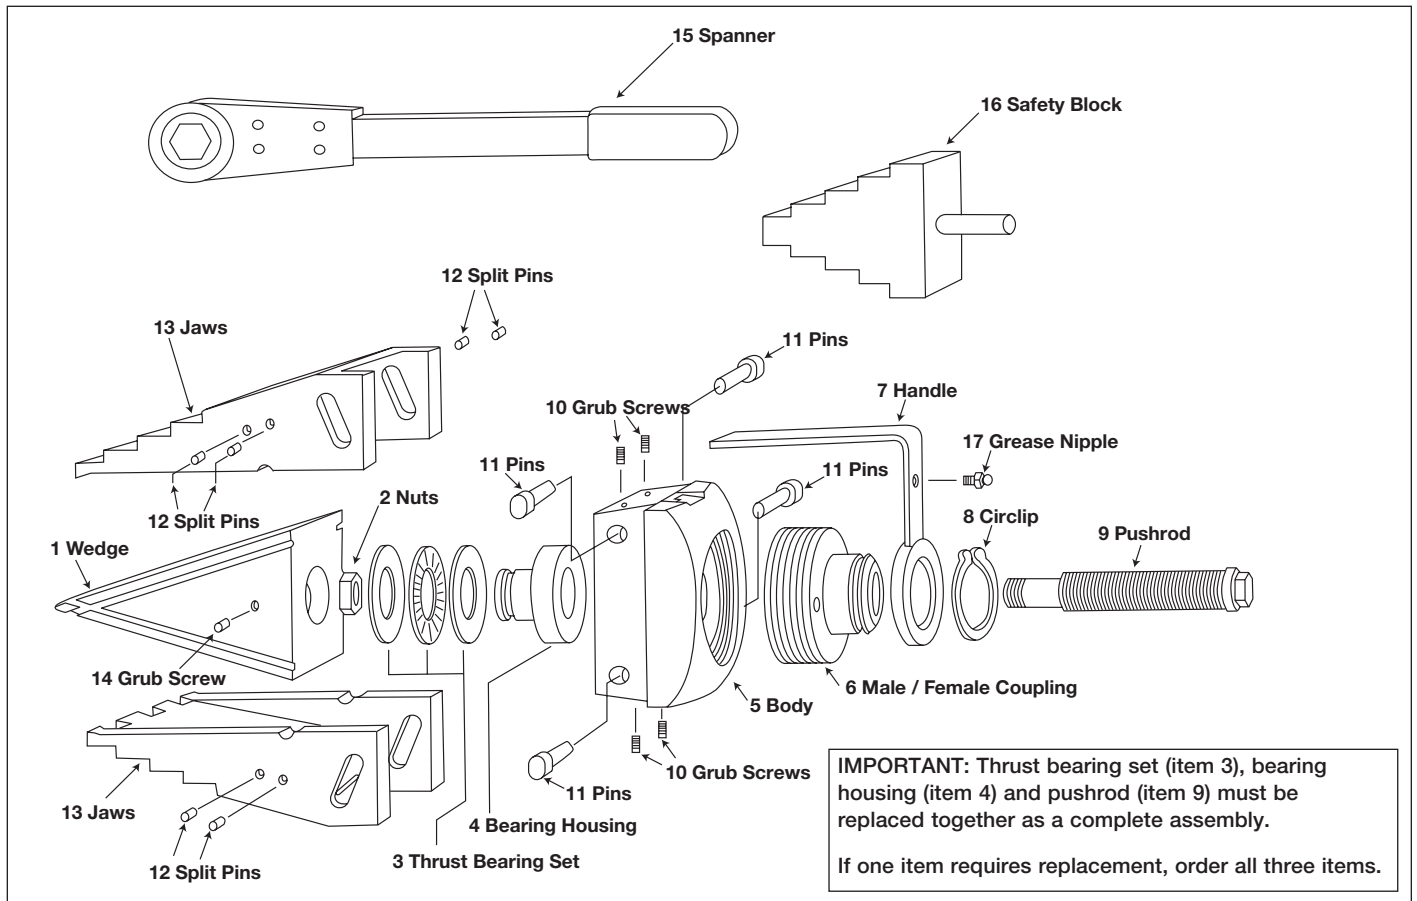

Figure 1
1.0 LUBRICATION (See Figs. 1 and 2)
2.0 DISASSEMBLY (See Fig. 1)